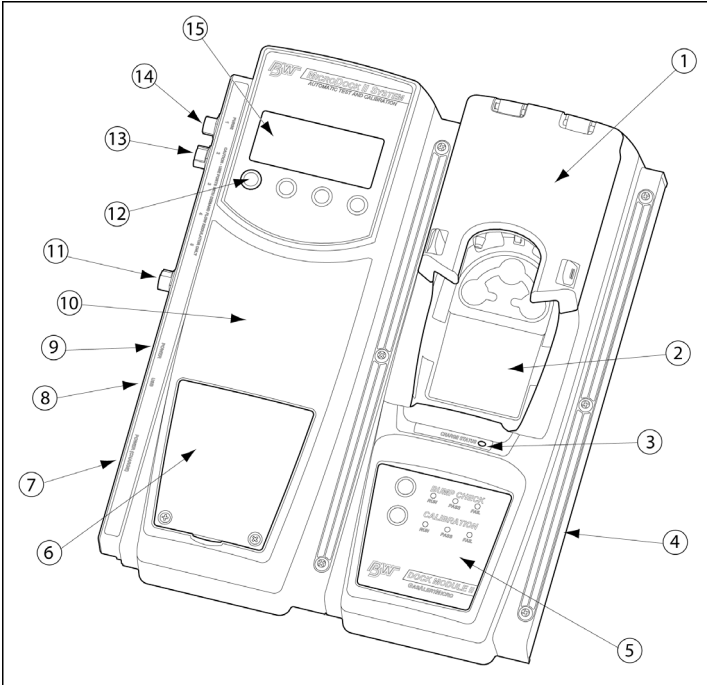

Figure 2. The MicroDock II Base Station and Docking Module
- Figure 2. and Table 2. The MicroDock II Base Station and Docking Module (describes the base station)